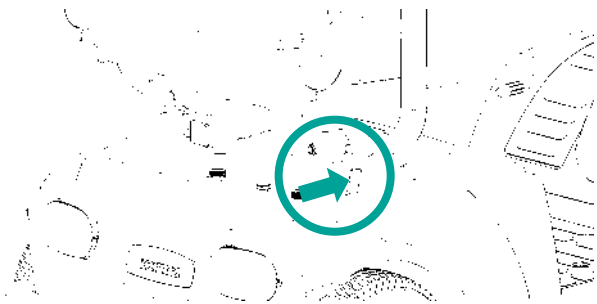

Figure 7.9 Freewheel Mode
7.12.2 Freewheel Mode: pull the lever completely towards the front of the scooter and the scooter can be pushed manually. Again, the electromagnetic brake does not work in freewheel mode. (See Figure 7.9)